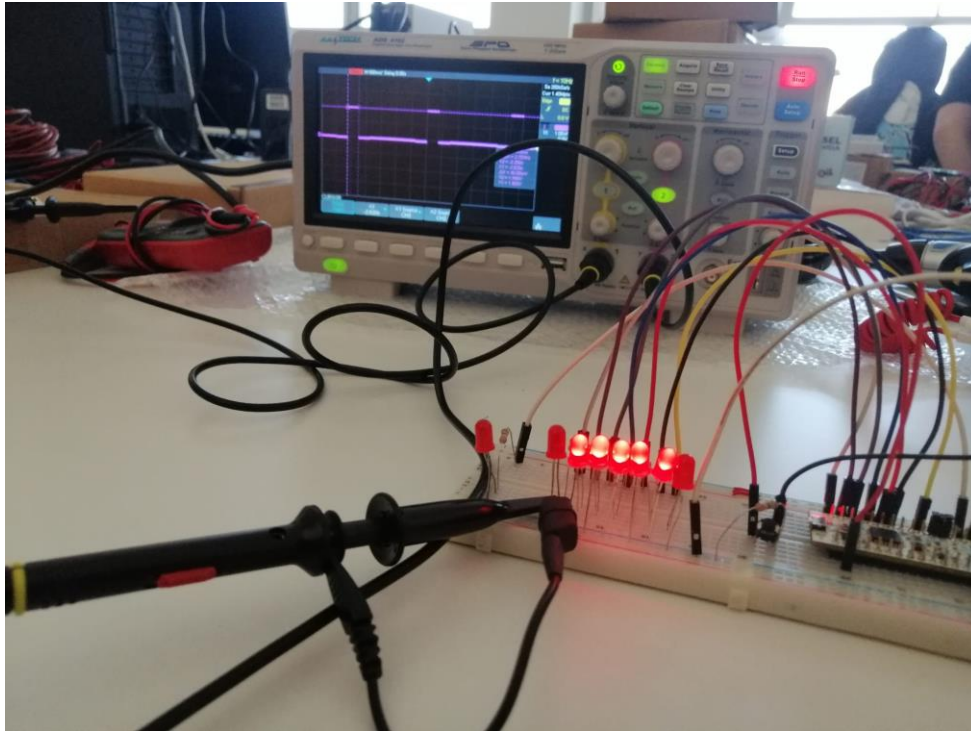
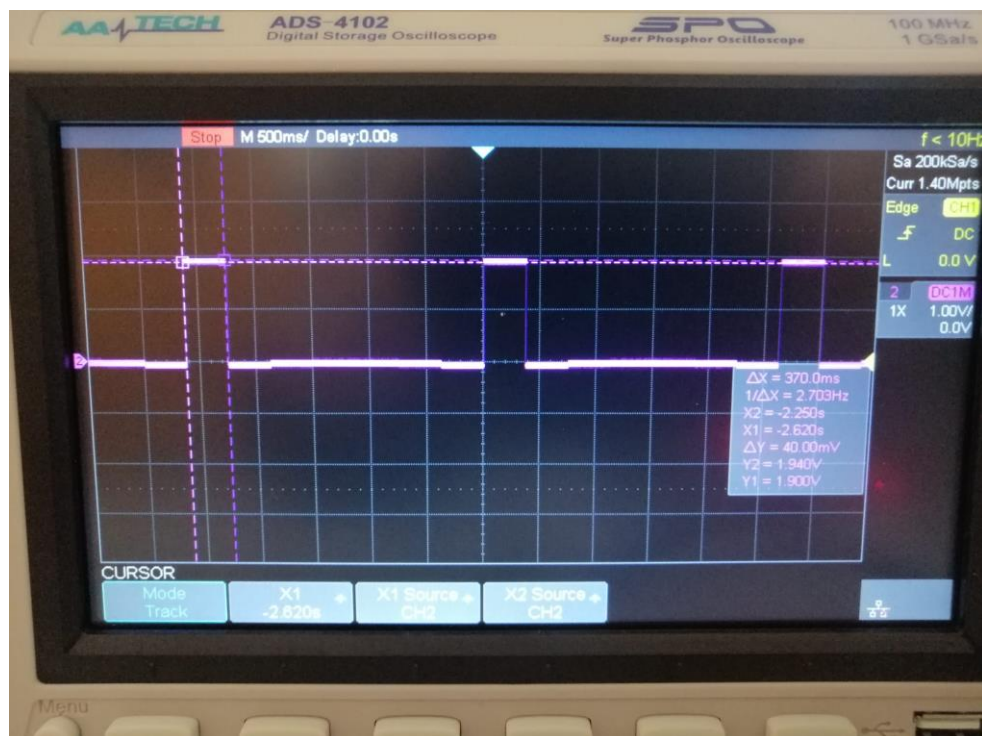

Figure 4: LED1, connected to oscilloscope
Figure 5: LED1, on time
- Prob connected to LED1 as in Figure 4, measured on and off times as in Figure 5,6 and 7. LED1 on 370 ms, off 2.200s and all period measured as 2.620 s.